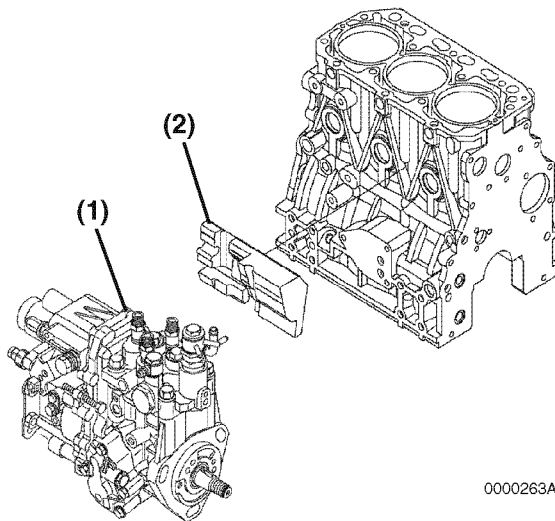
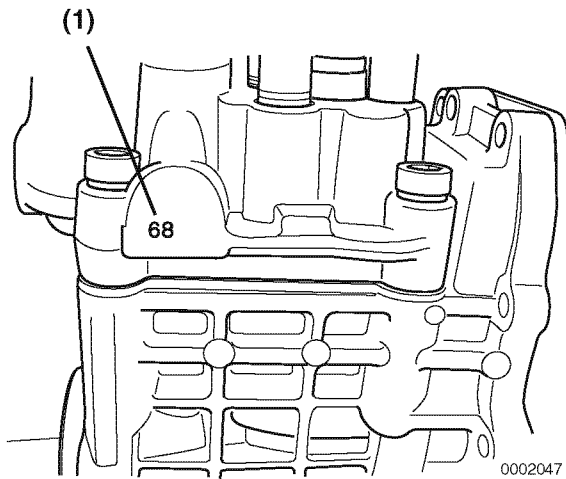

Figure 7-20
Figure 7-21
Note: Some model engines may require the intake manifold and fuel injection pump insulator (Figure 7-20, (2)) be removed to access the inner fuel injection pump (Figure 7-20, (1)) retaining nuts.
24. Remove the fuel injection pump (Figure 7-20, (1)). For purposes of future injection timing purposes, record the fuel injection pump timing index number located on the boss on the engine side (back) of the of the fuel injection pump (Figure 7-21, (1)).